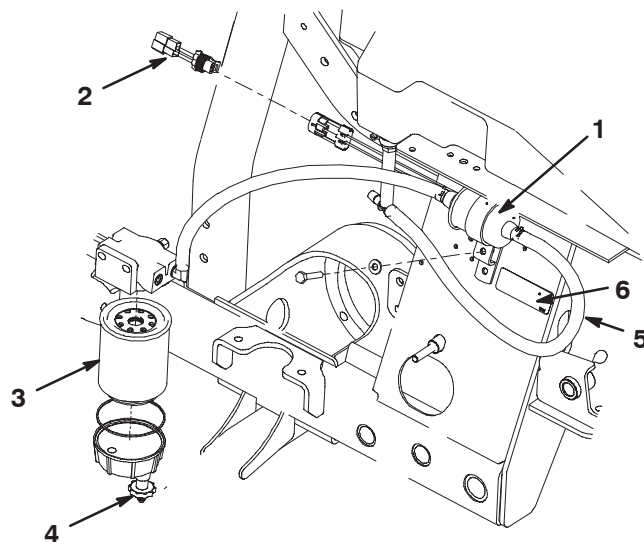

Figure 5
- Using the lower, old pump mounting hole, mount the new fuel pump and clamp to the machine with a 1/4 x 2 inch self tapping screw, and .281 x .625 washer (Fig. 5). Make sure the pump wires are extending to the rear of the machine.
- Secure the hose from the water separator to the rear pump fitting (outlet) with the hose clamp previously removed (Fig. 5).
- Clean area where filter canister mounts (Fig. 5).
- Remove the old filter canister and clean mounting surface (Fig. 5).
Affix the fuel filter kit decal to a visible location forward of new fuel pump (Fig. 5). Make sure to clean the mounting surface before affixing the decal.
- Secure the hose to the front fuel pump fitting (inlet) with the hose clamp previously removed (Fig. 5).